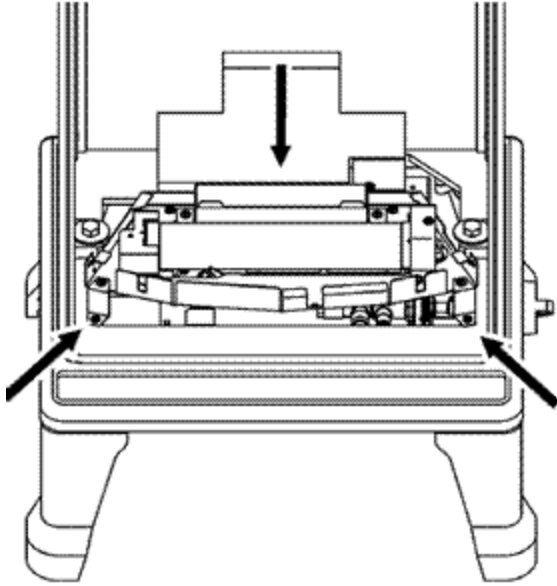

Figure 5.
- Locate the burner assembly inside the stove body as in figure 5 (The outer front of the stove is not shown for clarity). The rear leg of the burner should sit on the rear of the casting. Secure using the three screws supplied. The screw locations are shown in figure 5).